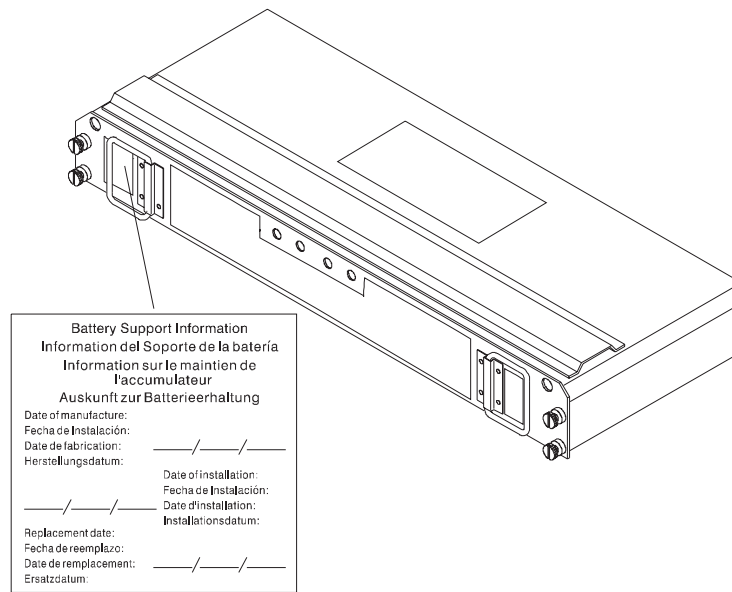

Figure 31. Checking the battery service date
2. Check the Battery Support Information label, as shown in Figure 31.